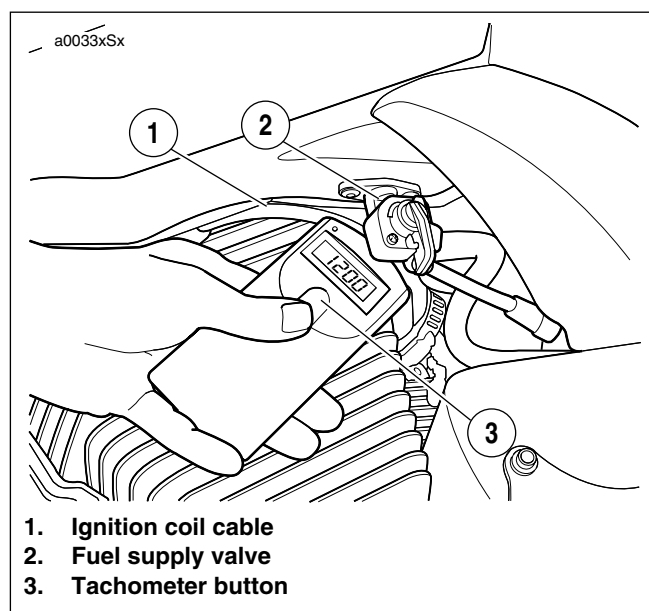

Figure 1-44. Checking RPM Using a Hand Held Tachometer
2. See Figure 1-44. The ignition coil cable is located on the left side of the bike behind the fuel supply valve. With the bike running, place hand held tachometer on ignition coil cable.